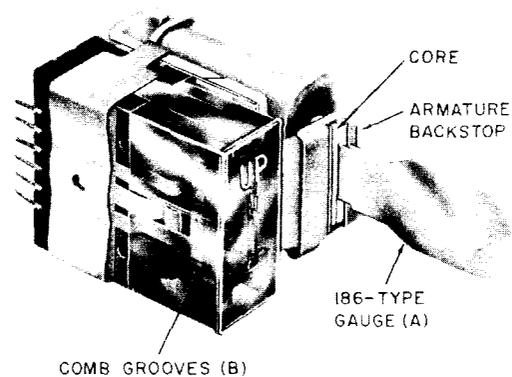

Fig. 3—Measuring Armature Travel With 186-Type Gauge
2.04 Armature Travel [Fig. 3(A)]: With the relay electrically operated, the armature travel measured at the gap between the armature backstop and the core shall not exceed 0.002 inch from the value (0.025) nor exceed 0.003 inch from the value (0.026, 0.036, or 0.042 inch) specified in the ARM TRVL column of the circuit requirements table.
2.07 Movable Twin Spring Position [Fig. 3(B)]: